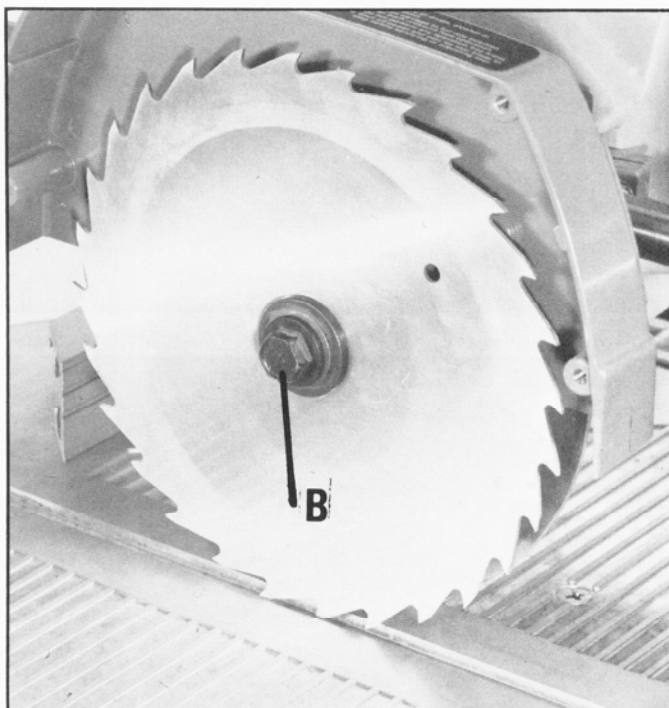

Fig. 54
7. Thread blade screw (B) Fig. 54, into hole in saw arbor by turning screw (B) counterclockwise.